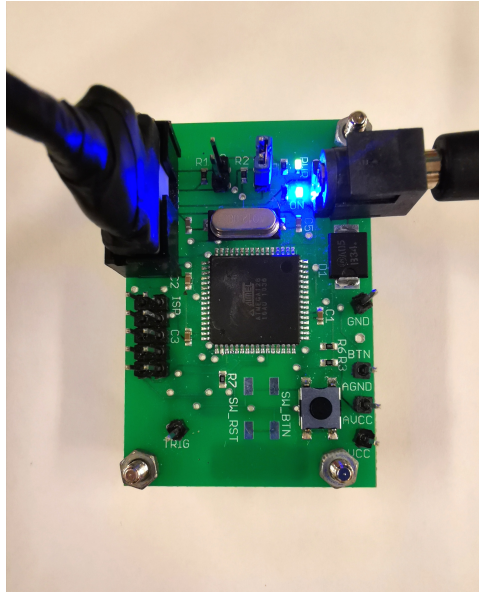

Figure 1: The hardware board
You will be using a small hardware board (fig. 1) with a generic microprocessor programmed to perform DES encryption and decryption. The scenario is that you are the attacker and want to find out the secret key stored inside the board. There is no way of getting to the key directly, so you will need to perform a side-channel attack by measuring the power consumption of the board while the algorithm is running. The hardware board also allows the user to load a custom key in order to compare the power consumption.
1. One hardware board (fig. 1)